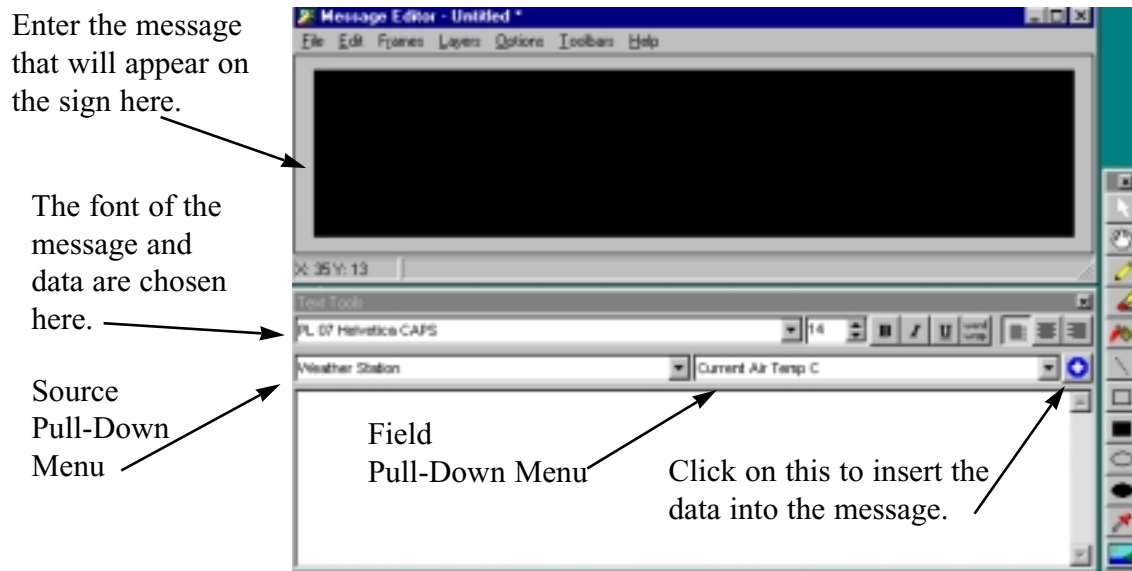

FIGURE 5.3-1. ProLine software provides an easy-to-use message editor.
1. Type the message in the area indicated in Figure 5.3-1.
5. Click on the white cross (Figure 5.3-1) and the data stored in the selected field will be inserted into the message where the cursor is located.